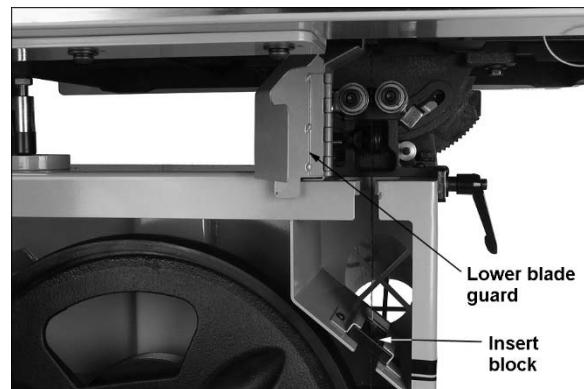

Figure 23
6. Open upper and lower doors by rotating door catches. Open lower blade guard and remove insert block (Figure 23).
10. Re-install table insert (A) and table pin (B).